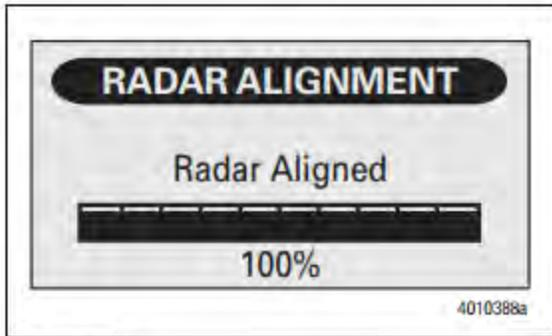

Figure 2.21
6. Drive until the Radar Aligned screen in Figure 2.21 appears in the OnGuard™ display. This typically takes 10 to 30 minutes of driving time to complete.